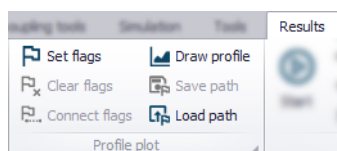

Figure 20.40 Set flags from the Profile Plot toolbox on the Results ribbon
- Set path flags on the result map using the 'Set flags' tool from the Profile Plot toolbox on the Results ribbon (Figure 20.40).